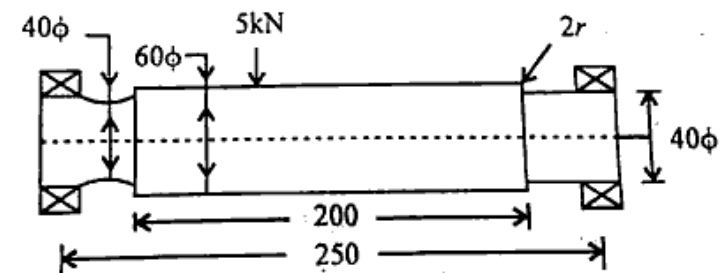

Fig. 1(c)
- (d) A cantilever beam made of Steel Fe-540 ( $S_{ut} = 540$  N/mm2 and  $S_{yt} = 320$  N/mm2) and subjected to a completely reversed load ( $P$ ) of 5kN is shown in Fig. 1(d). The beam is machined and the reliability is 50%.